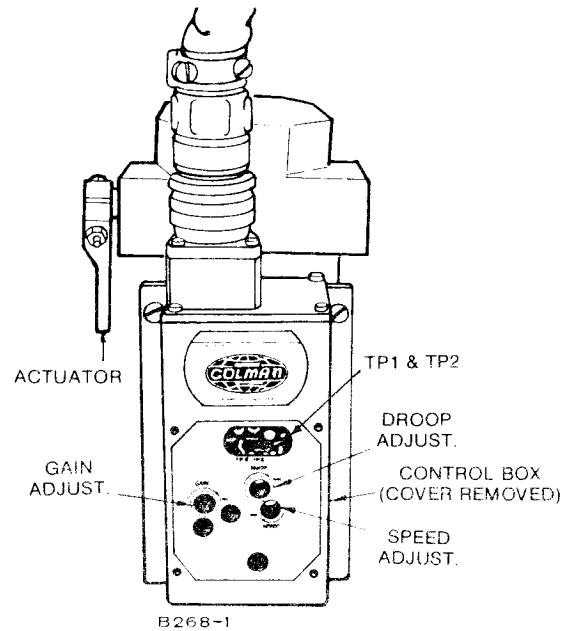

FIGURE 26A. GOVERNOR ADJUSTMENT
6. Adjust speed reference potentiometer in governor controller counterclockwise four complete turns. Refer to Figure 26A.